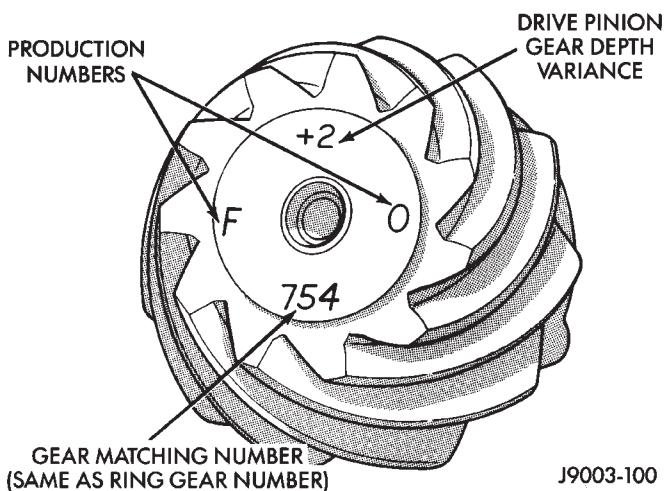

Fig. 61 Pinion Gear ID Numbers
Ring and pinion gears are supplied as matched sets only. The identifying numbers for the ring and pinion gear are etched into the face of each gear (Fig. 61). A plus (+) number, minus (-) number or zero (0) is etched into the face of the pinion gear. This number is the amount (in thousandths of an inch) the depth varies from the standard depth setting of a pinion etched with a (0). The standard setting from the center line of the ring gear to the back face of the pinion is 92.08 mm (3.625 in.). The standard depth provides the best gear tooth contact pattern. Refer to Backlash and Contact Pattern Analysis paragraph in this section for additional information.
(9) Select a shim equal to the dial indicator reading plus the drive pinion gear depth variance number etched in the face of the pinion gear (Fig. 61). For example, if the depth variance is -2 , add $+0.002$ in. to the dial indicator reading.